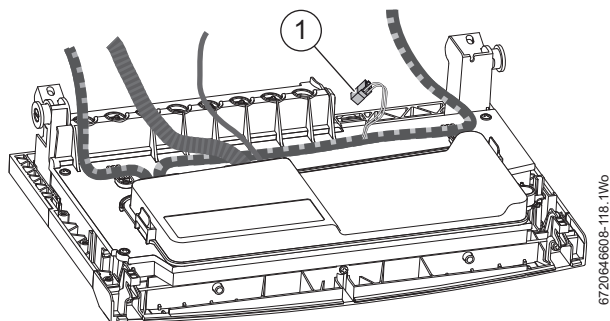

Fig. 26 Unused connector
Refer to Figure 26. The connector (1) in the wiring harness is for use on other appliances and does not provide a function on this Greenstar iSystem Compact ERP